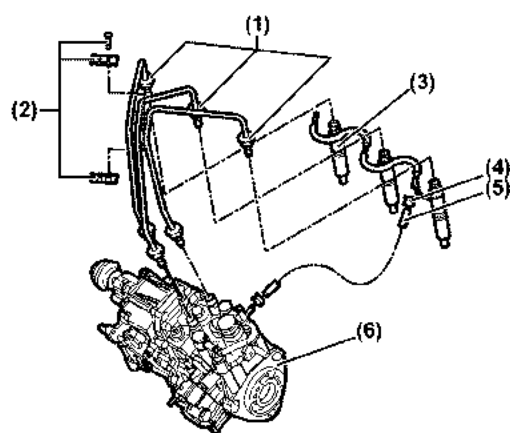
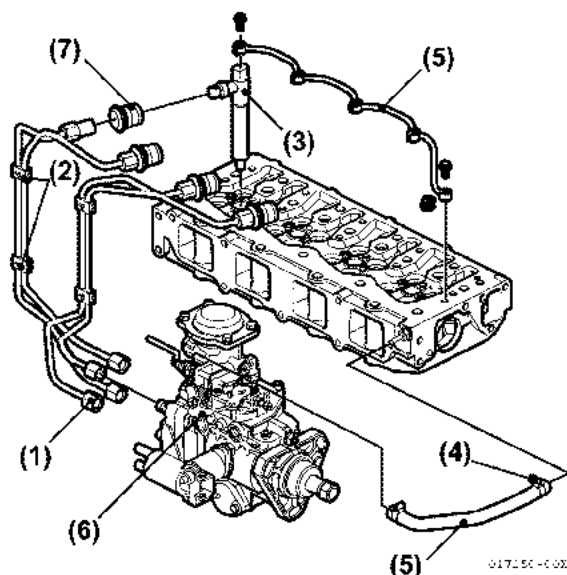

Figure 6-13
Figure 6-14
7. Install the fuel injection lines (**Figure 6-13, (1)**) and (**Figure 6-14, (1)**). *See Installing Fuel Injection Nozzles on page 6-13.*
8. If removed, install clamp(s) (Figure 6-13, (2)) and (Figure 6-14, (2)).
9. Install injection nozzle return fuel lines (Figure 6-13, (4)) and (Figure 6-14, (4), (5)). See *Installing Fuel Injection Nozzles* on page 6-13.
10. 4JH4-TE and 4JH4-HTE: Install pipe seal (Figure 6-14, (7)).